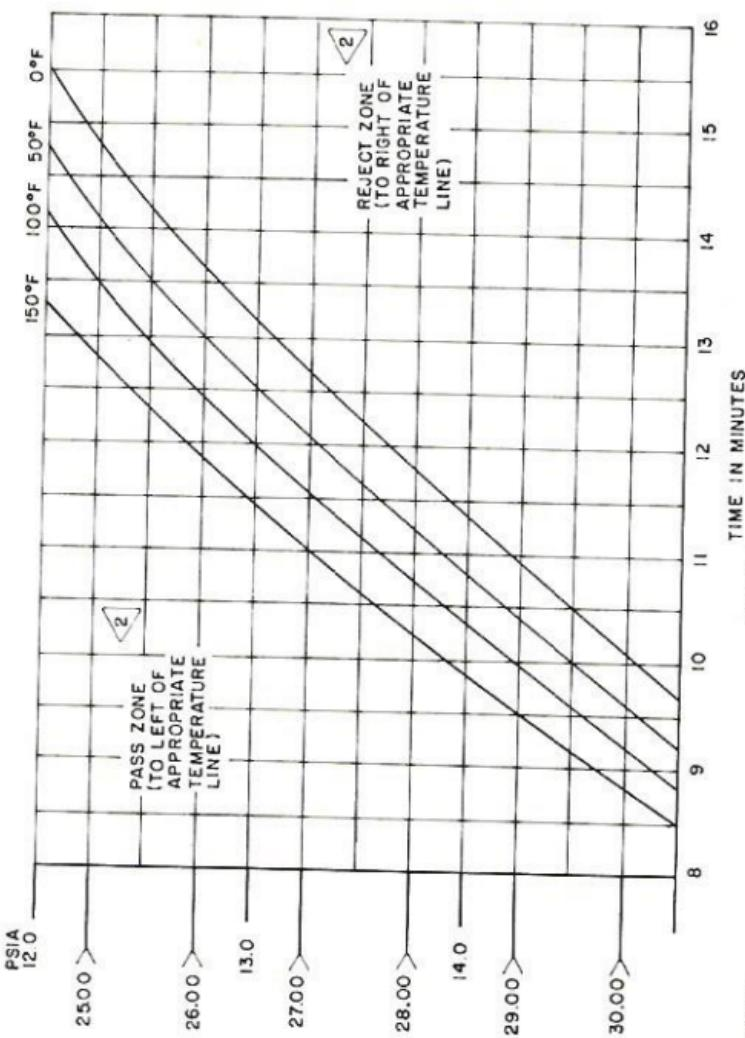

Figure 3-2. Compressor Check Chart
4. 905 OFF - restrictor plug to dehydrator intake fitting - RADAR STBY - press 024 S1 = 024 high side iaw fig. 3-2